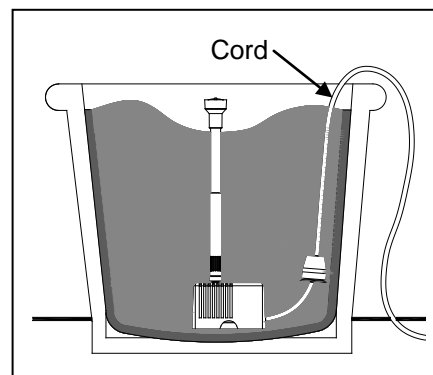

Fig. 6
6. Test fit the assembled container fountain kit in the container. For installing the fountain with the pump cord over the side of the container, (recommended) proceed to step 9. For having the pump cord come out through the container wall, proceed to the next step. Fig. 6